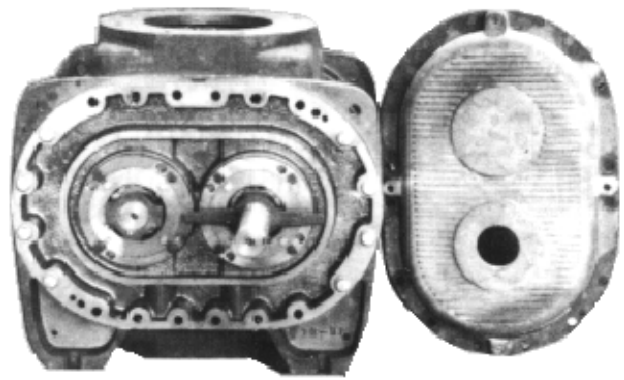

FIGURE 17 - DRIVE END
To check or establish the gear-end clearance, use a sleeve made to substitute for the gear and grip ring assembly (items 5 and 6 on the parts cross section, FIGURE 17, page 31). With the gear locking clamp in place over the shaft end, and against the spacer sleeve, tighten the cap screws to 40 ft. lbs/5.4 kg-m torque. Check the clearance between the impeller ends and gear headplate. Add or remove shims behind the cartridge flange to establish the clearance given in FIGURE 11, page 14. Then remove the spacer sleeve and install gears, grip rings and locking clamps as outlined in "Setting Impeller Clearances," page 15. Note finished torque value.
Refer to FIGURE 17. Remove the drive cover. Unbolt and remove the oil slinger from the shaft, noting its relative position for later replacement; spread slightly to avoid scratching the shaft. The bearing cartridges can now be removed following the procedure described
## 6" VERTICAL Reference Figure 17, Page 31, for Exploded View
Reference Figure 17, Page 31, for Exploded View**